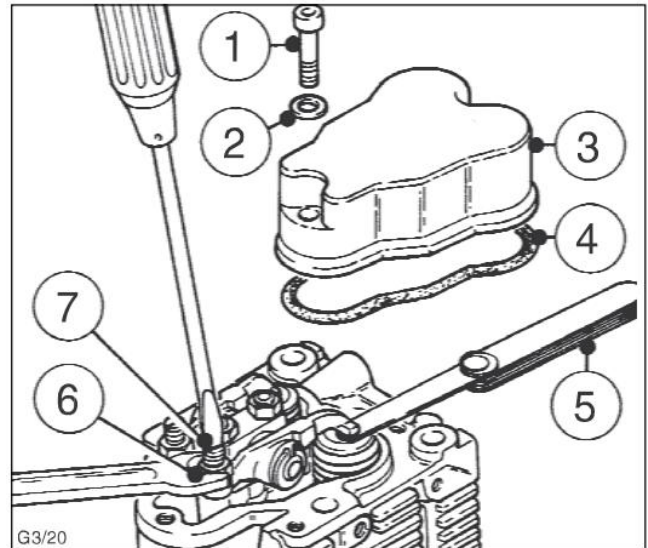

Fig. 21
-Measure valve clearance with 0.10 mm feeler Gauge "5" (fig.21, chap.3.1.).
-If adjustment is necessary, slacken off hex nut "6", turn adjusting screw "7" and re-tighten nut "6". It should then be possible to pull feeler gauge "5" through with just perceptible resistance to movement (fig.21).